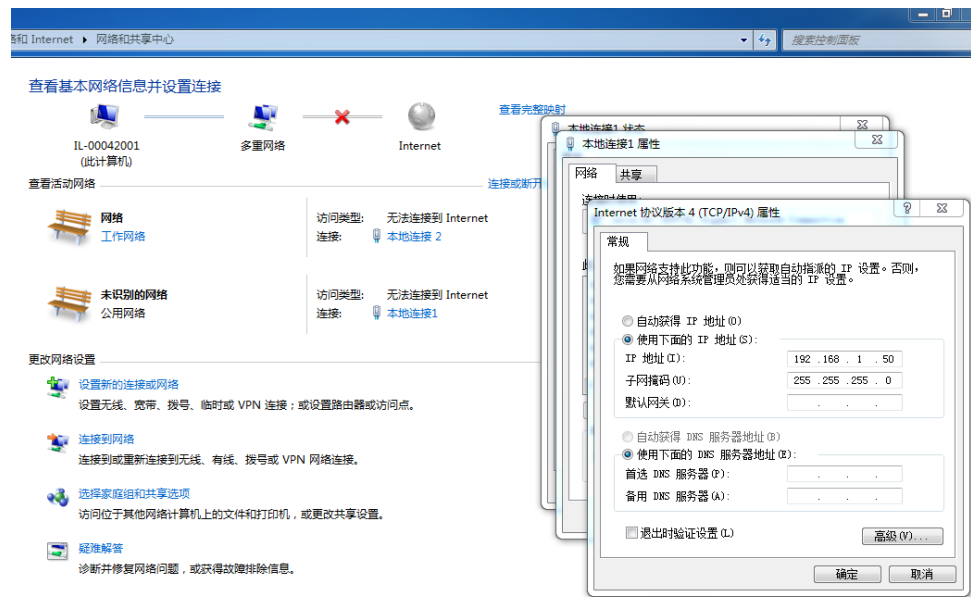

Figure 8-4 [Internet Protocol Version 4 (TCP/IPv4)] interface of local area connection 1
Step2. Click [Local Area Connection 1/Properties/Network/Internet Protocol Version 4 (TCP/IPv4)], configure the IP address of the laser and laser control host as: 192.168.1.50, and the subnet mask as: 255.255.255.0. As shown in Figure 8-4.